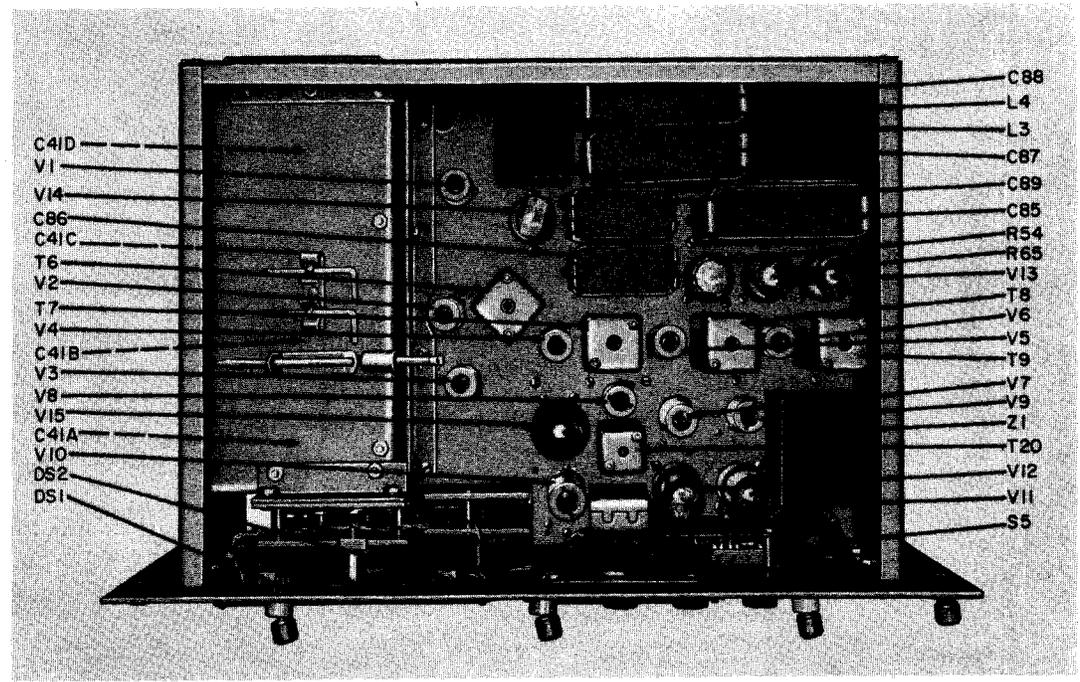

Figure 7-2. Radio Receiver R-649/UR, Top View
c. SPECIAL TOOLS AND DUMMY ANTENNA.—A special double-ended alignment tool is furnished with the receiver. When not in use it is clipped to the tuning capacitor cover located on top of the receiver chassis. See figure 7-2. The small end of this tool is used for aligning the bottom slug in the i-f transformers by insertion through the top slug. The larger end of this tool is for aligning the top slug in the i-f transformers. Adjustment of the trimmer and padder capacitors and the slugs in the r-f section of the receiver is done with any suitable non-metallic alignment tool. The dummy antenna used for alignment and testing of the receiver consists of a small composition resistor and a small mica capacitor in series with the low impedance output of the r-f signal generator. The 0.20 to 0.40 mc (band 1) dummy antenna consists of a 300-ohm composition resistor and a 500 uuf mica capacitor in series with the r-f signal generator across the antenna input terminals. The dummy antenna for bands 2 through 5 is the same except a 200 uuf mica capacitor is substituted for the 500 uuf capacitor.
e. CIRCUIT PARTS LOCATIONS. — Figures 7-2 through 7-10 show various views of the receiver and are intended to aid in the location of the electrical parts and various test and align-
(5) I-F ALIGNMENT PROCEDURE.
Step 1. Connect a 0.01 uf capacitor to the r-f output lead of the signal generator. By means of a small clip, connect the other end of this capacitor to the control grid (pin 1) of V4. Refer to figures 7-2 through 7-10 and 7-12 and 7-13 for location of necessary component parts and alignment points. Connect the ground lead of the r-f signal generator to B-.